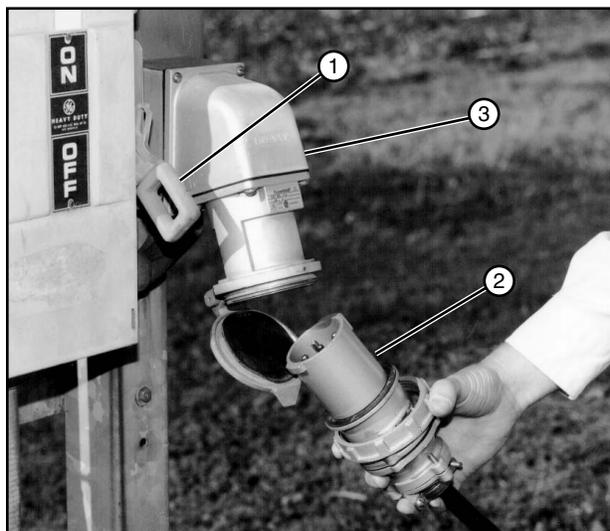

Figure 42-1 1. Service Disconnect - OFF 3. Receptacle
5. With the service disconnect in the OFF position, unplug the power plug from the receptacle. See Figure 42-1.